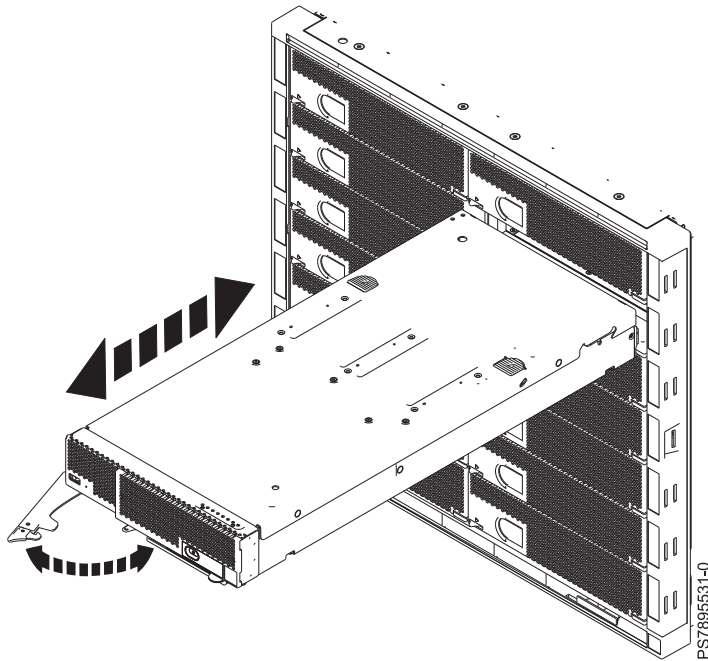

Figure 8. Removing the compute node from the IBM Flex System Enterprise Chassis
5. Open the release handles, as shown in Figure 8 on page 37. The IBM Flex System p260 Compute Node has one release handle. The IBM Flex System p460 Compute Node has two release handles. The compute node can be moved out of the bay approximately 0.6 cm (0.25 inch).